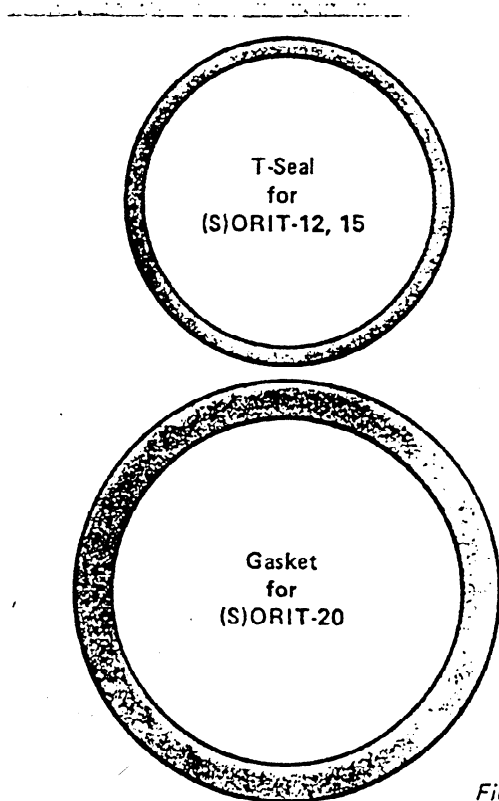

Figure 1
6. Remove the locknut or cap screws and pilot assembly from the main valve body and replace the tetraseal in the mating groove of the adapter. Two gaskets are supplied with each pilot assembly kit. The correct gasket for the (S)ORIT-12 and -15 is the tetraseal. See Figure 1 for actual dimensions of the tetraseal.
7. Again mount the complete pilot assembly to the main valve body. Properly align the three pilot connections and tighten the locknut to 30 ft/lbs. Excessive tightening is not required on the (S)ORIT-15, but uniformity of compression from the four cap screws is important. Complete the installation by joining the three pilot connections.
4. Remove the four cap screws with a 1/4" Allen wrench and replace the flange adapter gasket. See Figure 1 for actual dimensions of the gasket.
5. Reassemble the flange and cap screws. Before completely tightening the cap screws, rotate the pilot valve to properly align the inlet, outlet, and external equalizer connections. Join these connections and tighten the cap screws. The (S)ORIT-20 gasket is a composition gasket and, therefore, a torque value is not recommended but the flange must be bolted down evenly and firmly. The pilot replacement is now complete.